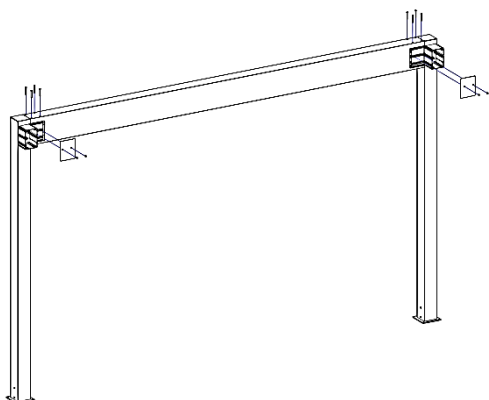

Figure 10
6. Screw the rear beam plugs to the sockets in the rear posts. According to Figures 10, 11, and 12.